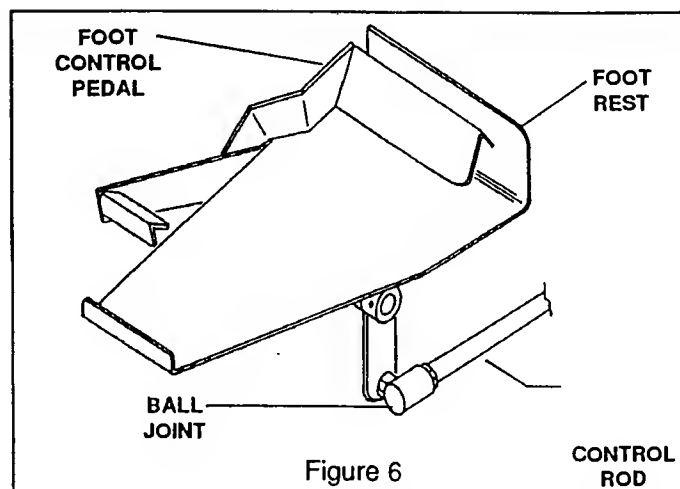

Figure 6
4. Check adjustments of foot control pedal for full forward speed. Pedal should rest on foot plate when pump is stroked in full forward position. To make adjustment, disconnect ball joint from pedal arm and loosen jam nut. (See fig. 6) Place foot control pedal forward against foot rest and adjust ball joint on rod until stud aligns with hole in arm. Bolt ball joint to arm and tighten jam nut.